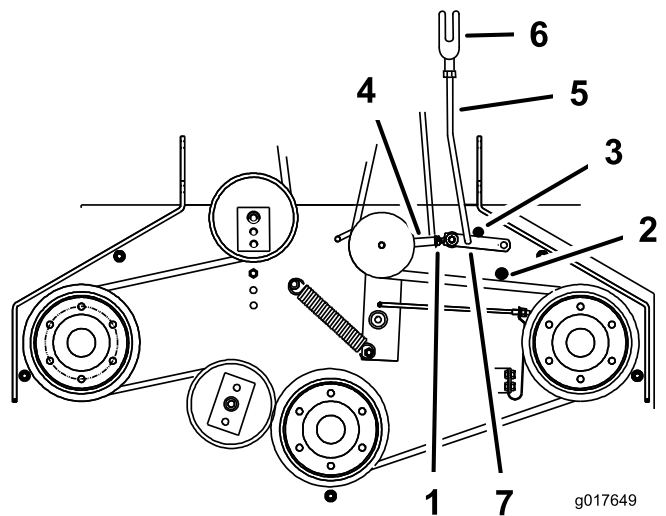

Figure 48
5. Ensure that the assist arm is against the rear assist-arm stop on the deck (Figure 48).
7. The assist arm should contact the front assist-arm stop on the deck. If it does not contact, adjust the bellcrank so that it is closer to the gusset (Figure 48).
8. To adjust the assist-arm link, remove the hairpin cotter from the assist arm (Figure 48).
11. Install the assist-arm link into the assist arm and secure it with the hairpin cotter (Figure 48).